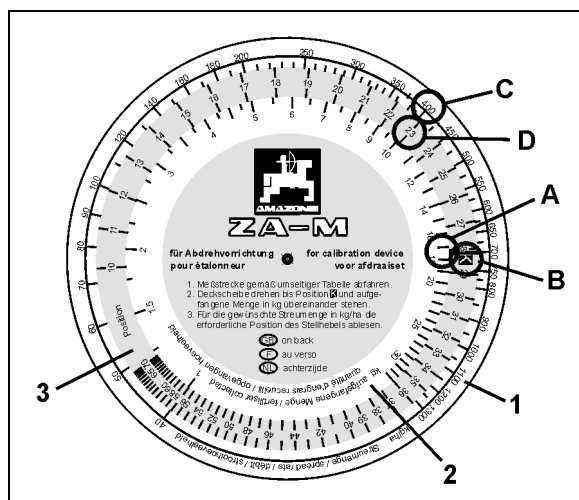

Fig. 53
- Take the calculating disc rule **for the calibration device**. Find on the scale (Fig. 53/2) for the collected material [kg] the figure "**17,5**" (Fig. 53/A) and align with position "**K**" (Fig. 53/B) on the coloured scale (Fig. 53/3).
- Look for the wanted spread rate (**400 kg/ha**) (Fig. 53/C) on the scale for the spread rate (Fig. 53/1) and read off the required shutter slide position "**23**" (Fig. 53/D).